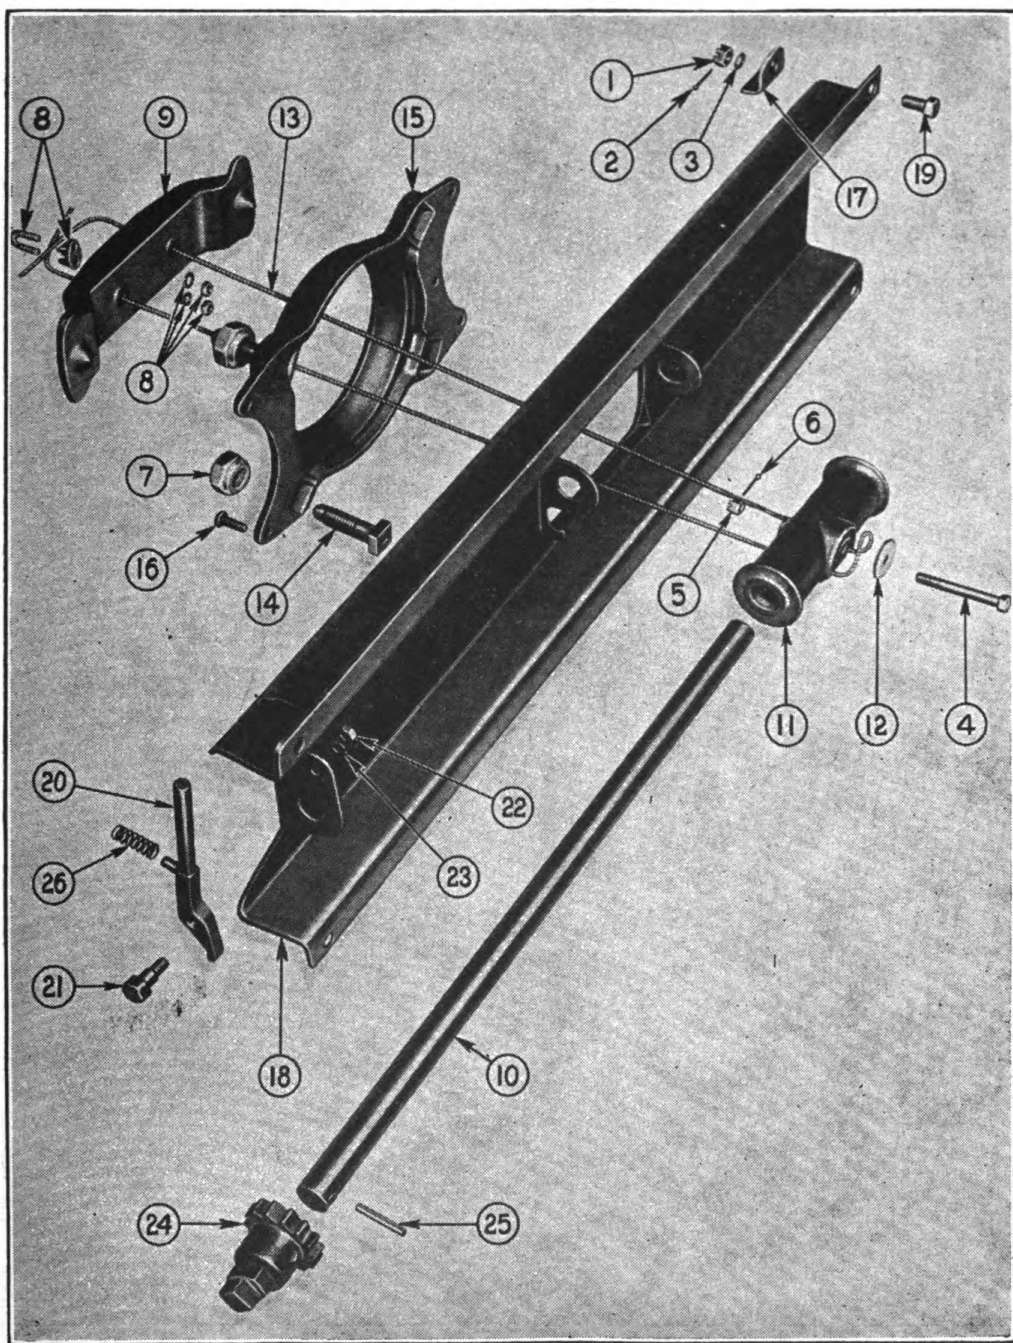

FIGURE 81. TIRE CARRIER—EXPLODED.
1. REMOVING TIRE FROM TIRE CARRIER (Fig. 81).—*a.* Remove the four lug nuts (7) from stud bolts (14), using large end of wheel wrench.
b. Place small end of wheel wrench over end of ratchet (24). Shove ratchet release handle (20) down to the released position. Lower tire to ground holding firmly to wheel wrench handle.
2. REPLACING TIRE CARRIER (Fig. 81).—a. Remove the tire from the tire carrier. Remove the four bolts (19) holding tire carrier to frame and lift out.
3. TIRE CARRIER CABLE REPLACEMENT.—a. Remove bolt (4) and washer (12) from drum (11). Remove the cable clamp (8) and pull cable (13) out of saddle (9).
b. NOTE: When replacing cable, place center of cable on bolts (4), making sure both sides are the same length. Should one side of cable be longer than the other, the tire will not wind up level; extra stress, apt to cause failure, will be placed on short end of cable.
4. REPLACING TIRE CARRIER RATCHET RELEASE HANDLE.—a. Remove nut (22) and washer (23). Pull bolt (21) out of ratchet release handle (20). Pull spring (26) off handle.